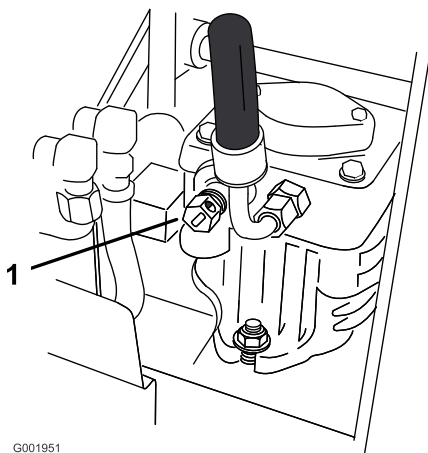

Figure 22
- Open the by-pass valve on both pumps by turning them counter clockwise 1 to 2 turns. This allows hydraulic fluid to by-pass the pumps and the wheels to turn (Figure 22).